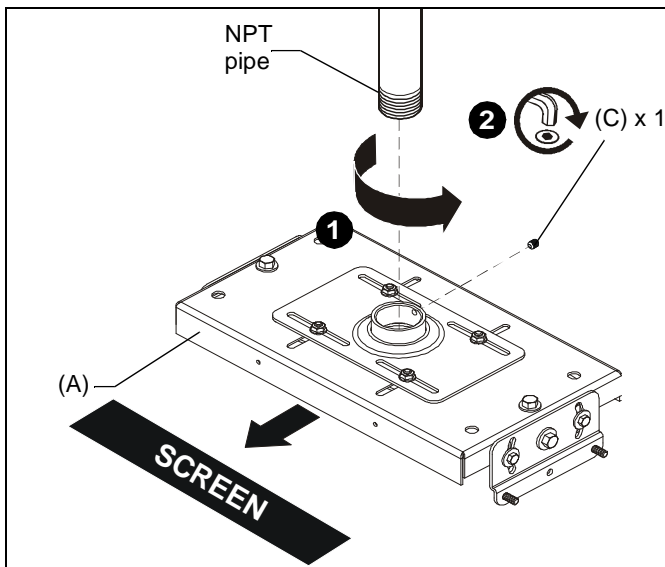

Figure 1
1. Thread the VCM mount (A) onto the existing 1-1/2" NPT pipe until tight with a minimum of four threads engaged. (See Figure 1)
NOTE: Ensure that long edge of VCM mount is located parallel to the screen. (See Figure 1)
2. Tighten the 5/16-18 x 3/8" set screw (C) into the VCM mount threaded collar to prevent movement of the VCM. (See Figure 1)